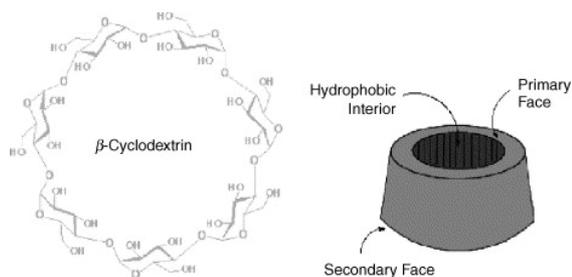

Figure 1. Structure of  $\beta$ -cyclodextrin. From (Del Valle 2004).
Cyclodextrins (CD) is a class of cyclic oligosaccharides that have a molecule-sized cavity (Del Valle 2004). CDs consist of six to eight D-glucopyranoside units joined by a 1,4-glycosidic link (Figure 1). CDs are referred to as  $\alpha$ -,  $\beta$ - and  $\gamma$ -cyclodextrin consisting of six, seven, and eight D-glucopyranose units, respectively. Smaller and larger ring structures are also known and used.